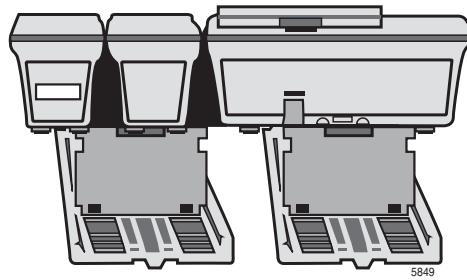

Figure 11-23 Tilt Stands in Raised Position for DKT and Two ADMs
7. Pull up on the Tilt Stand Bases so that they open to the maximum angle (30 degrees). See Figure 11-23.